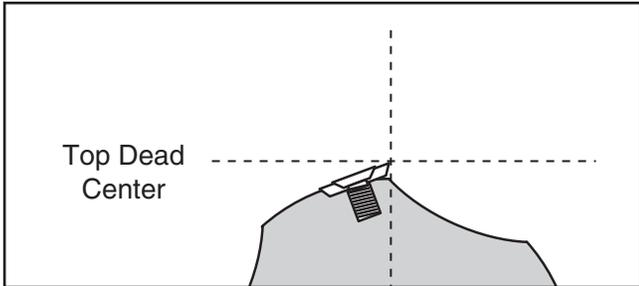

Figure 12. Cutterhead insert at top-dead-center.
27. Place a straightedge on the outfeed table so it extends over the cutterhead, and rotate the cutterhead pulley until one of the carbide inserts is at top-dead-center (TDC), as shown in **Figures 12 & 13**.